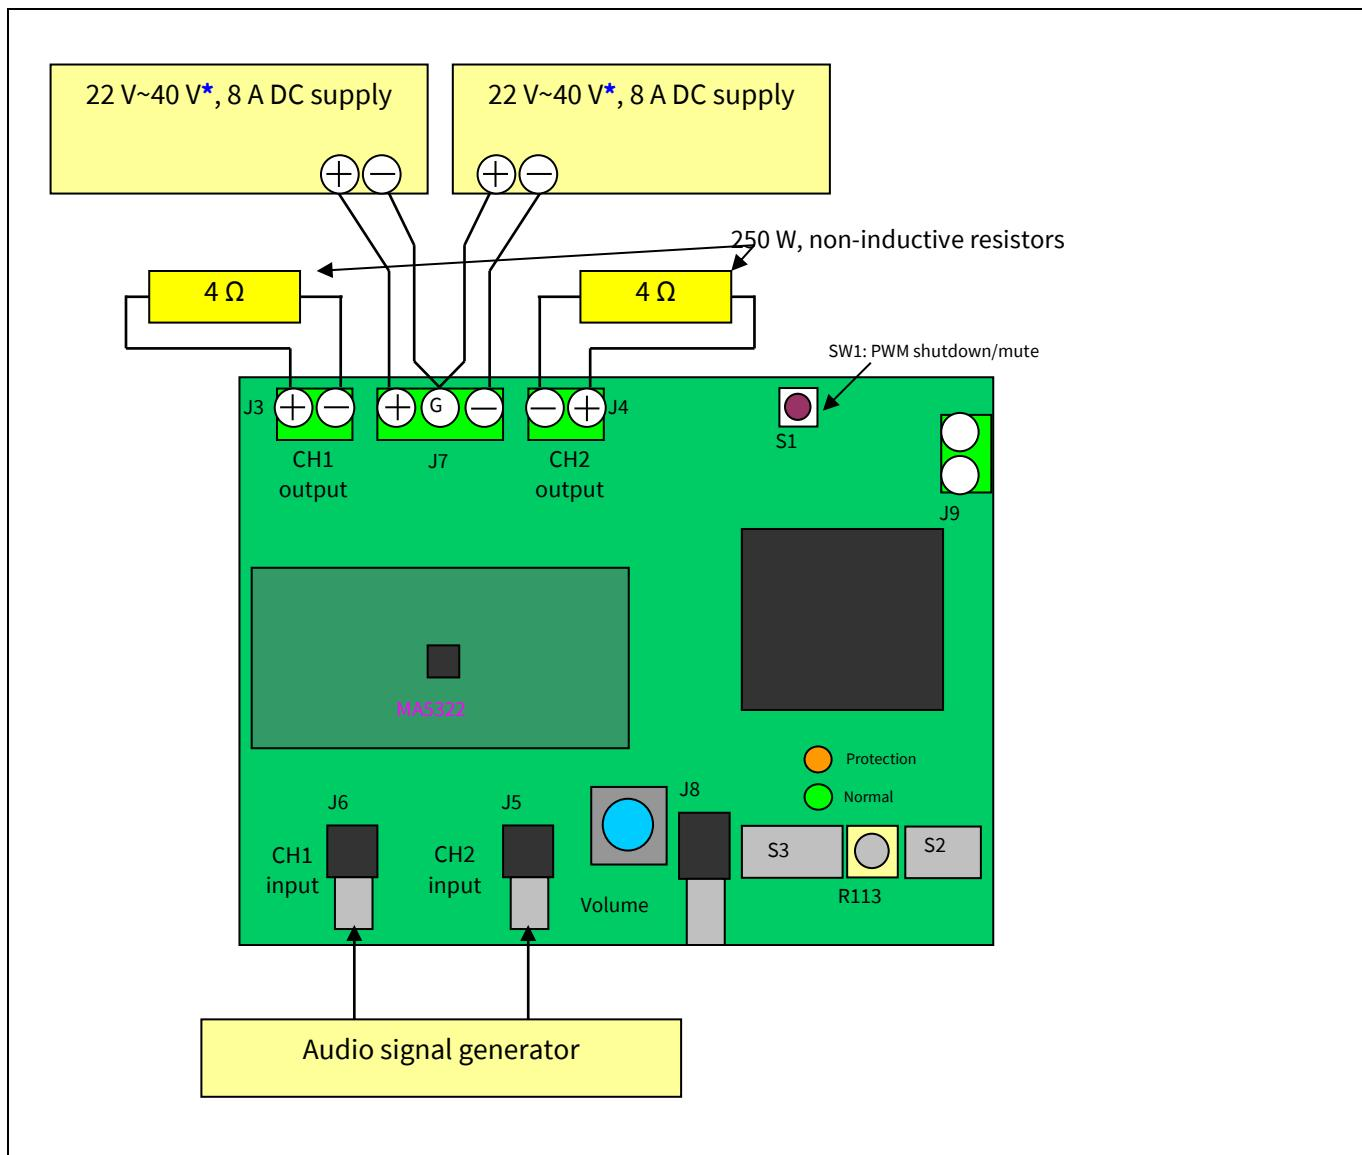
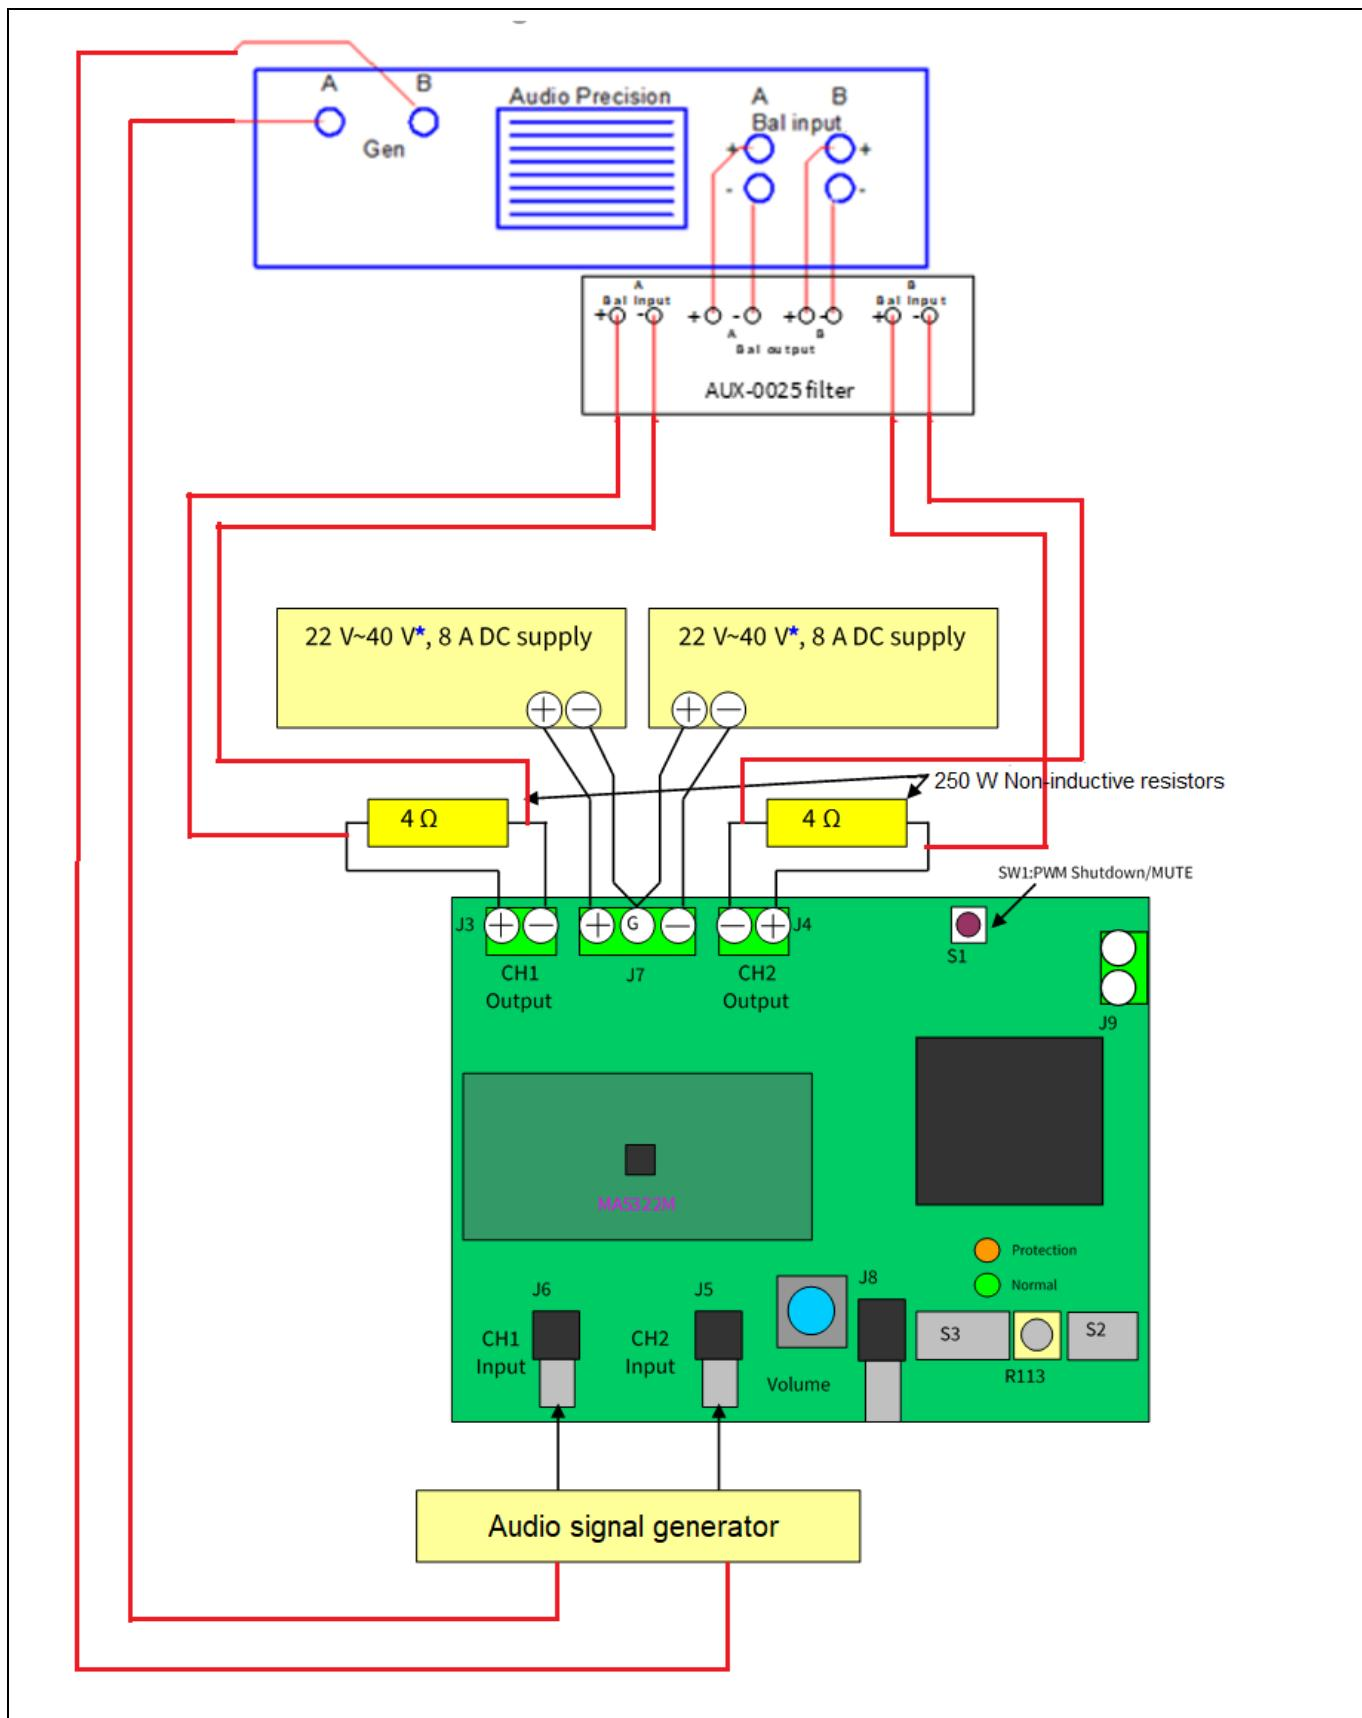

Figure 3 Typical connectors
Figure 4 Audio analyzer connections
1. Connect $4\ \Omega$ 250 W dummy loads to output connectors (J3 and J4, as shown in Figure 3) and parallel it with the input of the audio precision (AP) analyzer.
2. Connect the audio signal generator (ASG) to J6 and J5 for CH1 and CH2 respectively (AP).
7. Connect the dual power supply to J7, as shown in Figure 3 or Figure 4.